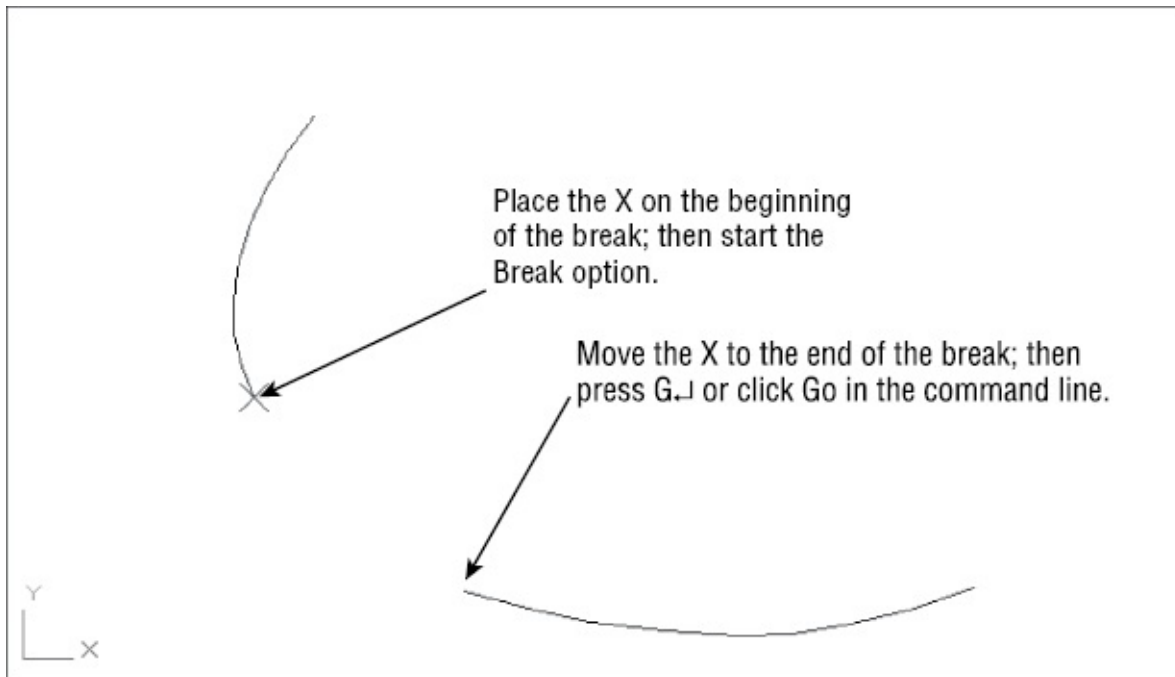

FIGURE 18.10 How the Break option works
4. When the X is in the proper position, enter **G** ↵ to break the polyline (see Figure 18.10).